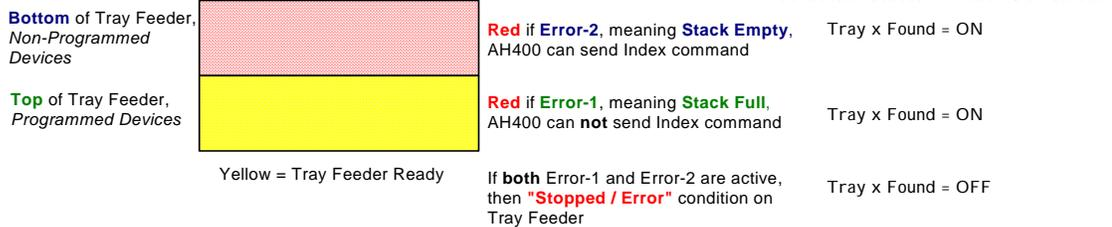

Figure 1-56—Wiring Diagram
- 8d) Terminate all other wires as indicated in Wiring Diagram (*Figure 1-56*).